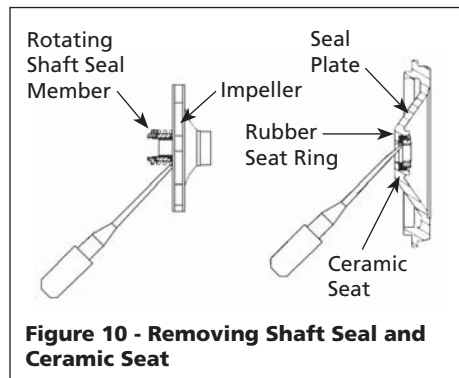

Figure 10 - Removing Shaft Seal and Ceramic Seat
8. Pry the rotating shaft seal member from the impeller (Figure 10).
9. Push or pry the ceramic seat free from the seal plate (Figure 10).